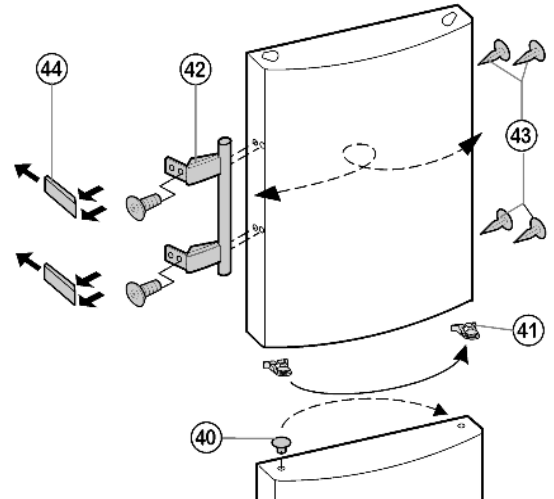

Fig. 9
- ▶ Disengage the spring clip Fig. 9 (41) from the upper door and transfer it to the new hinge side.
- ▶ Lift the stopper Fig. 9 (40) out of the lower door bearing bush and transfer it.
- ▶ Detach the door handles Fig. 9 (42), stoppers Fig. 9 (43) and pressure plates Fig. 9 (44) and transfer to the opposite side.